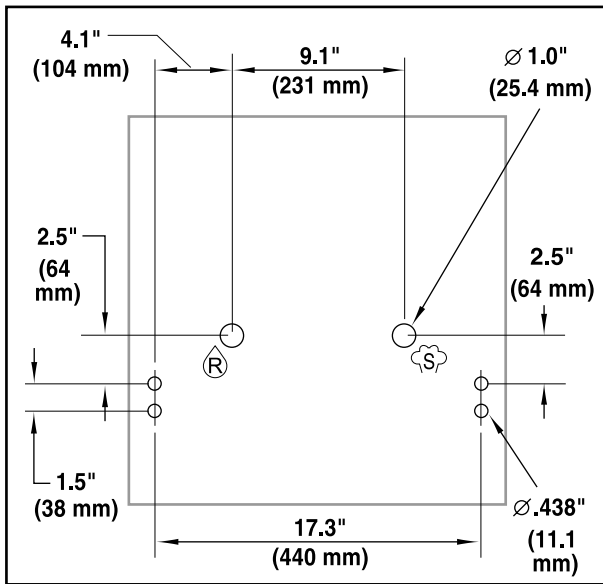

Figure 4: K12DTT mounting hole location
- Drill four 7/16" holes in table or stand top as shown in Figure 4.
- Drill two 1" holes in table or stand top as shown in Figure 4.